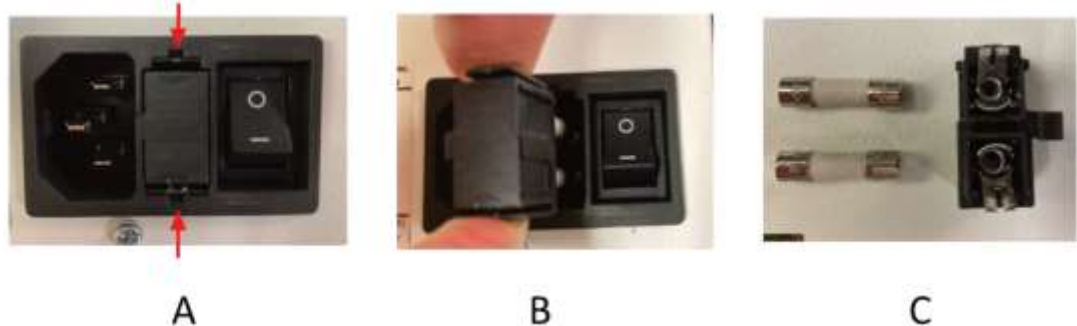

Figure 13 Location and Removal of Fuse Tray in AC Receptacle
Note Depending on the orientation of the AC receptacle, the fuse tray may be below or beside it. The red arrow in Figure 13 (A) shows where a flat screwdriver can be inserted to gently pull out the fuse tray.